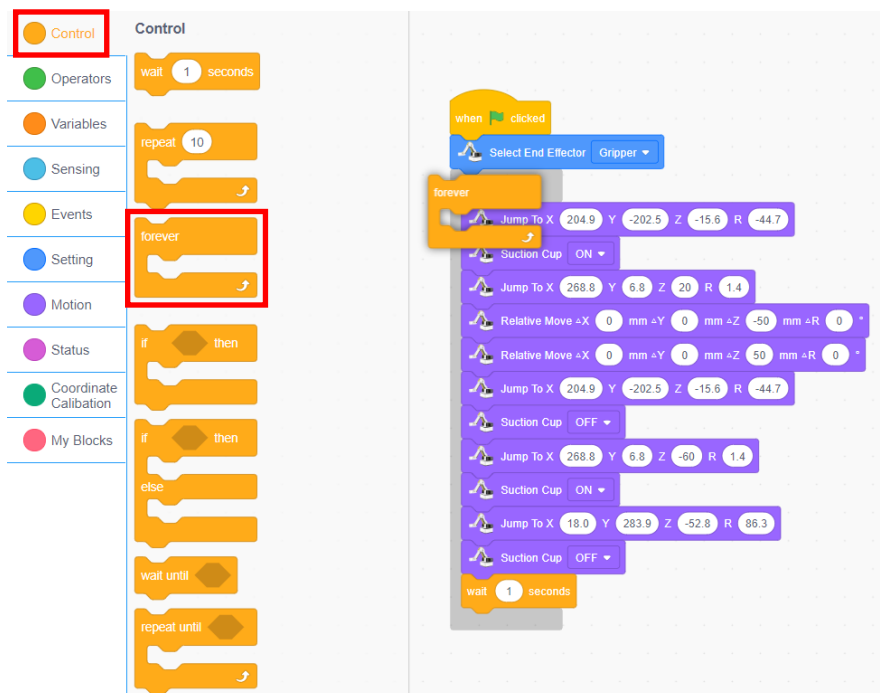

Figure 1.27 Repeating stamping action
Step 8: Repeat the stamping action. Repeat the action of dipping the ink - stamping - releasing the stamp - sucking the certificate - releasing the certificate. Click the "Control" tab and drag out the "forever" block, as shown in Figure 1.27.